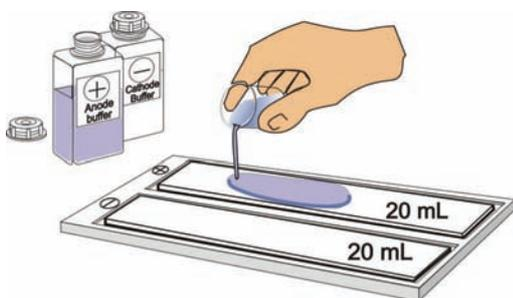

Fig. 4.2
4. Apply 20 mL of each electrode buffer to the respective electrode wick in the compartments of the **gel**company Paper-Pool (fig. 4.2).